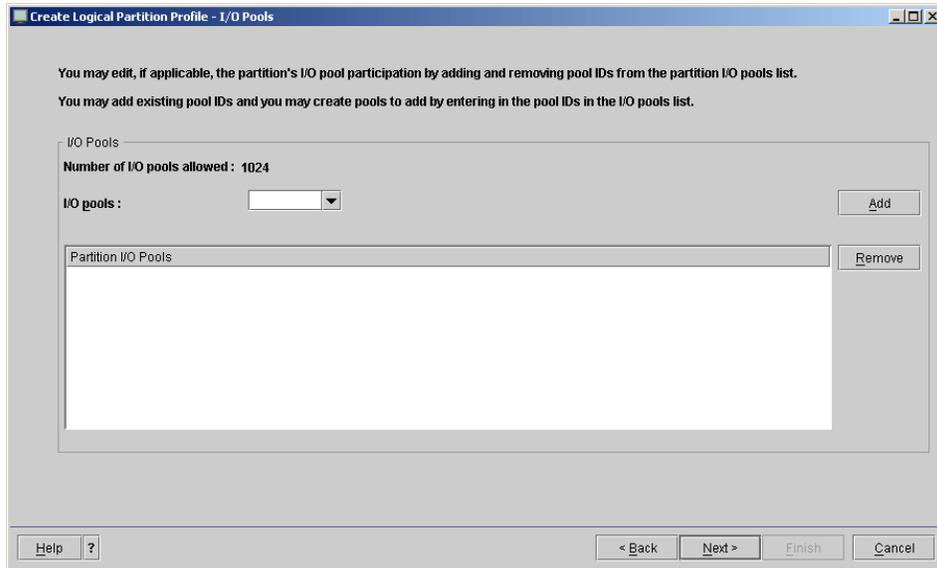

Figure 3-11 I/O Pool settings
11. Skip setting the I/O pools, as shown in Figure 3-11, by clicking **Next**.